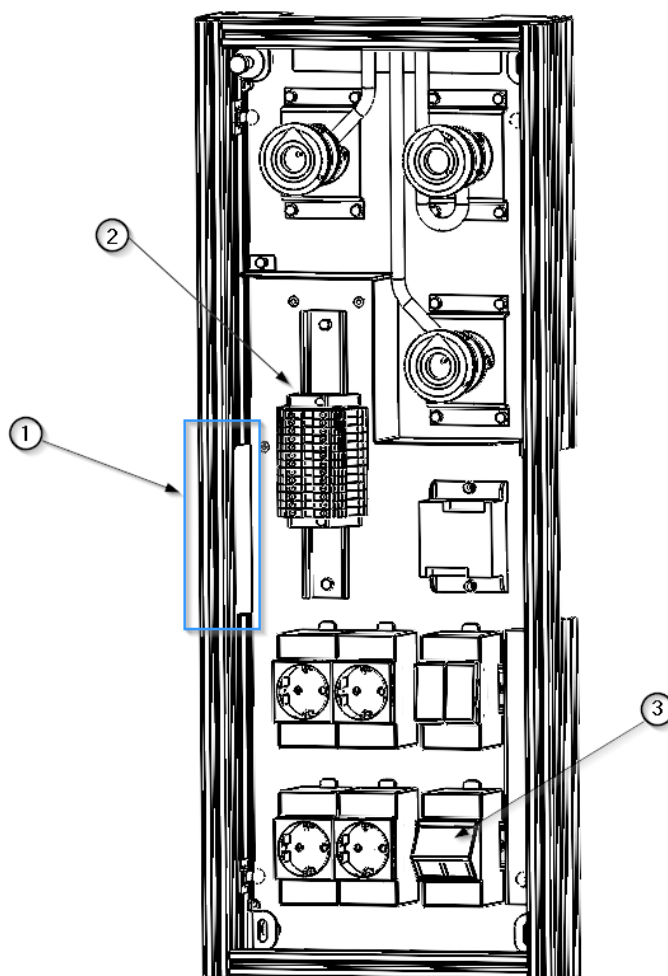

Fig.7 Detail of electrical connection points at ANTEA
The electrical, voice and data circuits enter the equipment through a window ① whose dimension and location are detailed in the installation plan of the equipment. The electrical circuits terminate in a common terminal block ②, except for voice and data, whose connection is direct to the corresponding mechanism ③. See figure 7.